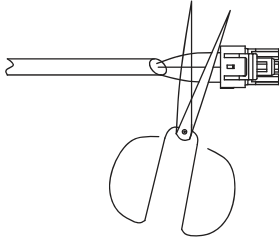

Fig. 19 — Shearing Outdoor Connector
1. Cut the connector on the outdoor unit side as shown in Fig. 19 below.